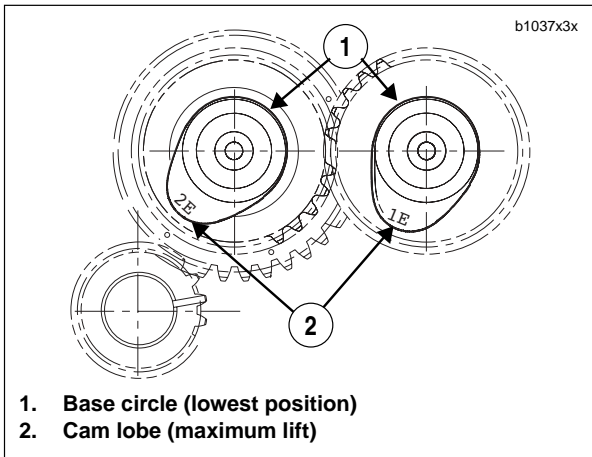

Figure 3-124. Base Circle
1. See Figure 3-124. Rotate engine so that both lifters from the cylinder will be installed on the base circle of the cam.
3. See Figure 3-124. Insert lifter into bore in crankcase. Rotate lifter so that flats at upper end of lifter face the front and rear of the engine. If the lifter is installed incorrectly, anti-rotation screws cannot be inserted.